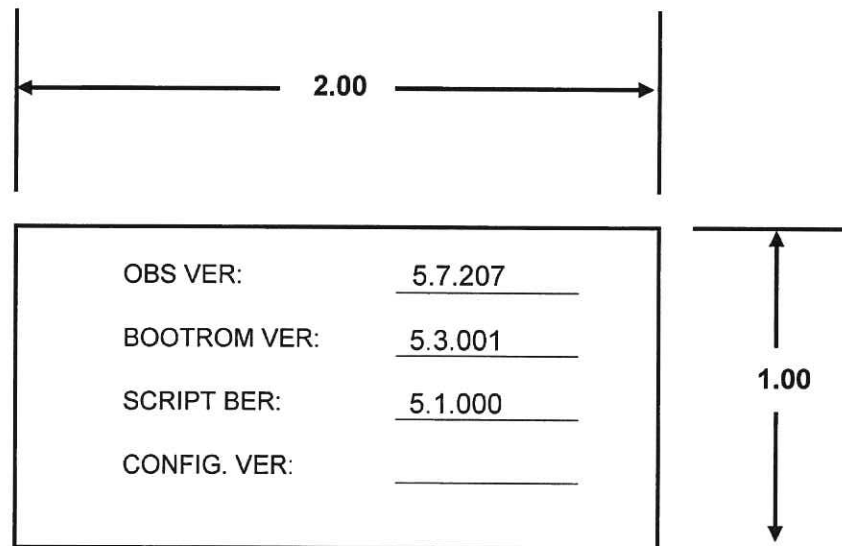

FIGURE 2 - LABEL, P/N 1209-3196-PF
4. Dimensions: Per Figure 2
1. Fill in the required data on the 429 HUMS Processor Label (1209-3196-PF) as shown in Figure 2. Install Label per Document No. 1796-0012-GP.